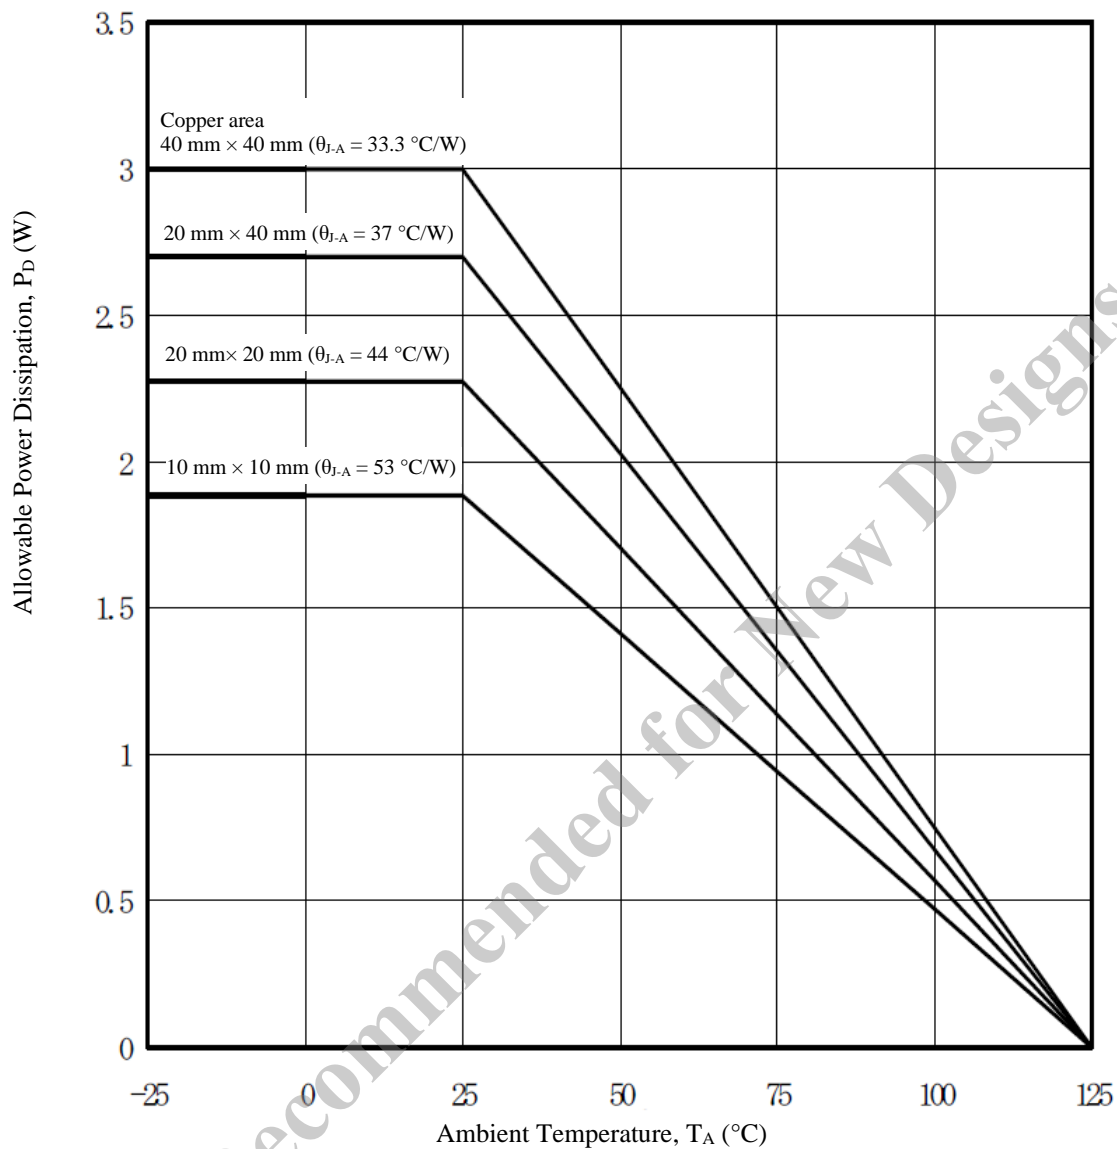

Figure 13-25. Thermal Derating
Figure 13-25 shows the thermal derating of the IC. When using the IC, ensure a sufficient margin.
- (3) Determine the copper area by confirming the intersection of ambient temperature and power dissipation by the thermal derating characteristics shown in Figure 13-25.